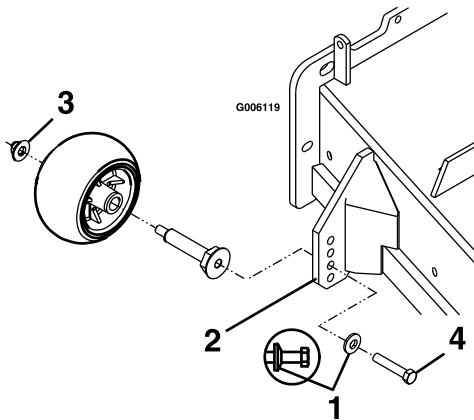

Figure 18
- For LZZ-LP Units: Be sure the roller bolts are installed with the spring disc washer between the head of the bolt and the mounting bracket (Figure 18).
Torque the 3/8–24 x 2 Gr 8 hex capscrew to 50–55 ft-lb (68–75 N-m) (Figure 18).